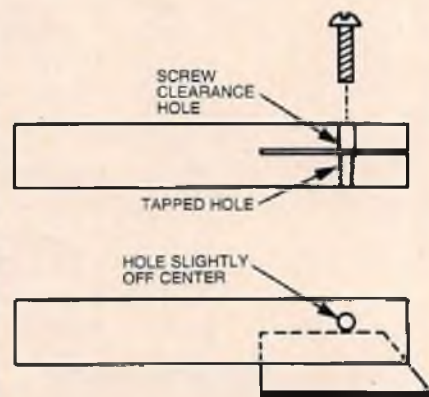

FIGURE 5
**NUMBER 6:** Another piece of 8mm square aluminum stock, approximately 140mm long, was fashioned to make a positive, safe, and simple way of holding one-half of a double edged razor blade. I used my Dremel saw, cutting very slowly, to cut a 35mm long slot and tapped the retaining screw hole for a 3mm screw. See Figure 5.